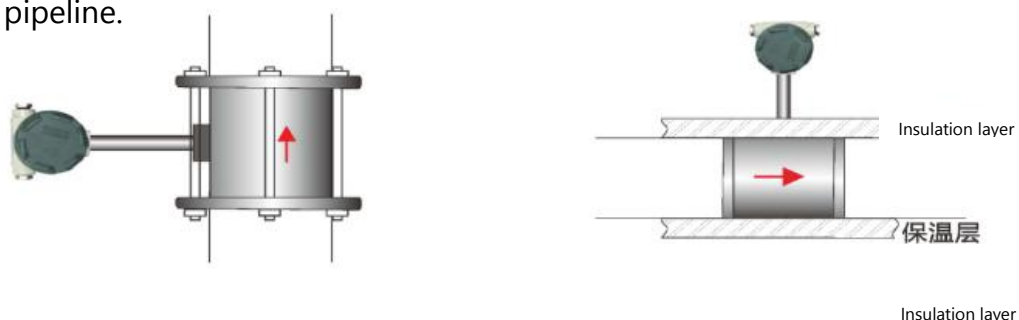

Fig.5
(6) When the vortex flow meter is installed in a horizontal pipeline, the meter head shall not be downward and shall be installed at an inclination of 45 degrees upward.
(7) When installing the insert type vortex flow meter, ensure that its axis coincides with the pipeline center line and it is perpendicular to the pipeline axis. The insertion depth meets the requirements and the flow direction is correct. The measuring head axis is parallel to the pipeline axis and the angle error is less than 7° . After the flow direction is adjusted, it should be locked to avoid rotation.
(8) Before welding, the vortex flow meter shall be removed. Welding with meter is prohibited; the flow meter connecting rod cannot be insulated during pipeline insulation. (Fig.5)
(9) If necessary, the vortex flowmeter shall be reliably grounded, with a grounding resistance $\leq 10 \Omega$.